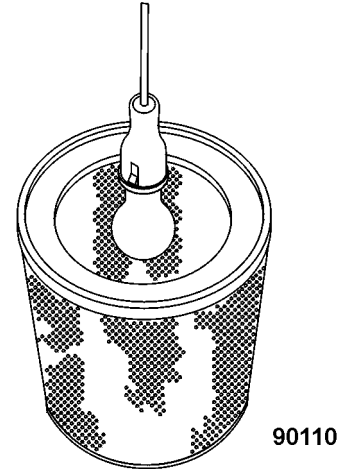

FIGURE 40-6. INSPECTING THE FILTER ELEMENT
4. After cleaning, inspect the element thoroughly for the slightest ruptures and damaged gaskets. A good method for detecting paper ruptures is to place a light inside the filter element, as shown in Figure 40-6, and inspect the outer surface of the filter element. If holes or ruptures are found, do not reuse the element. Discard and replace with a new element.
4. When cleaning is complete, inspect the filter element as shown in Figure 40-6. If holes or ruptures are noted, discard the element and replace with a new element.